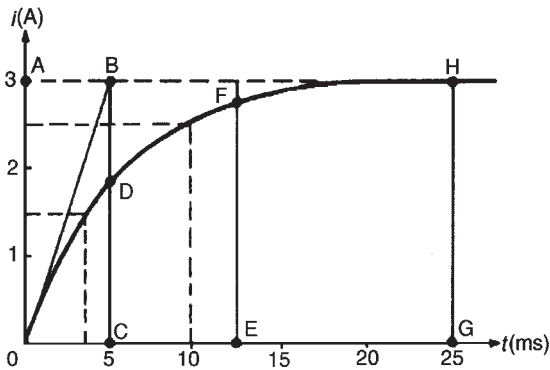

Figure 20.12
- (b) With reference to Fig. 20.12, the initial slope is obtained by making AB equal to 1 time constant, (i.e. 5 ms), and joining OB .